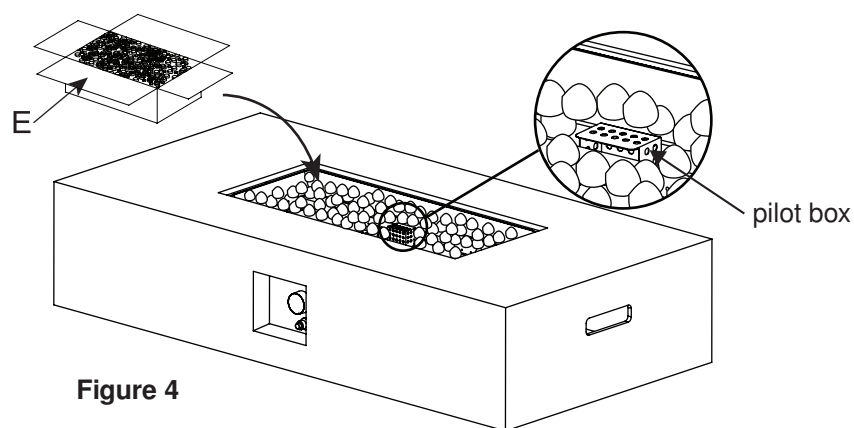

Figure 4
5. Despeje as pedras de lava (E) na tigela da lareira (B) (ver Figure 4).